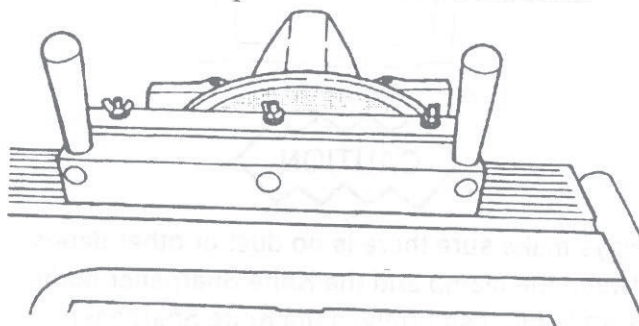

Figure 3
6. Set the Knife Sharpener on the worktable next to the Conical Sanding Disc, as shown in Figure 3. Then re-adjust the worktable so the Knife Sharpener's top edge is 1" from the top of the abrasive surface.